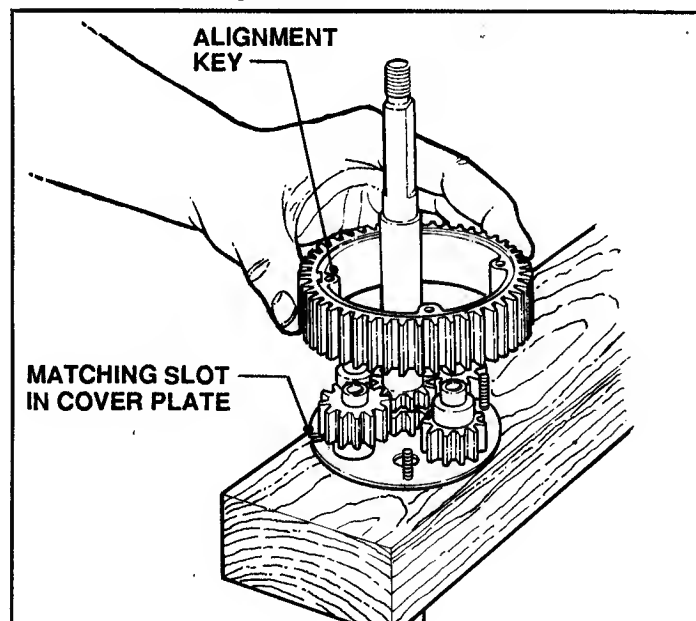

FIGURE 4.11
11. Align raised portion of bull gear over matching slot in cover plate on the board. See Figure 4.11.